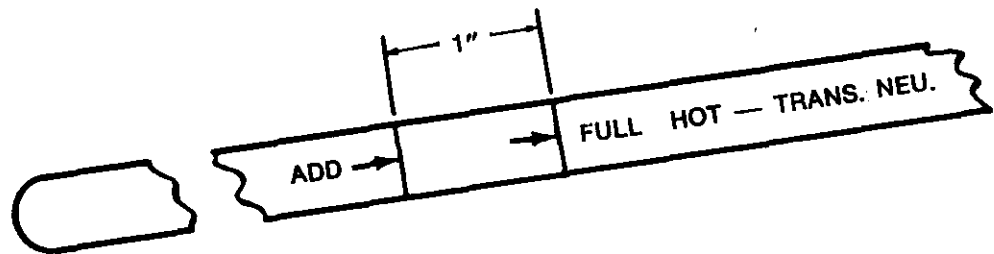

Figure 5-2. Typical markings on dipstick.
- Figure 5-2 shows the markings on a typical dipstick.